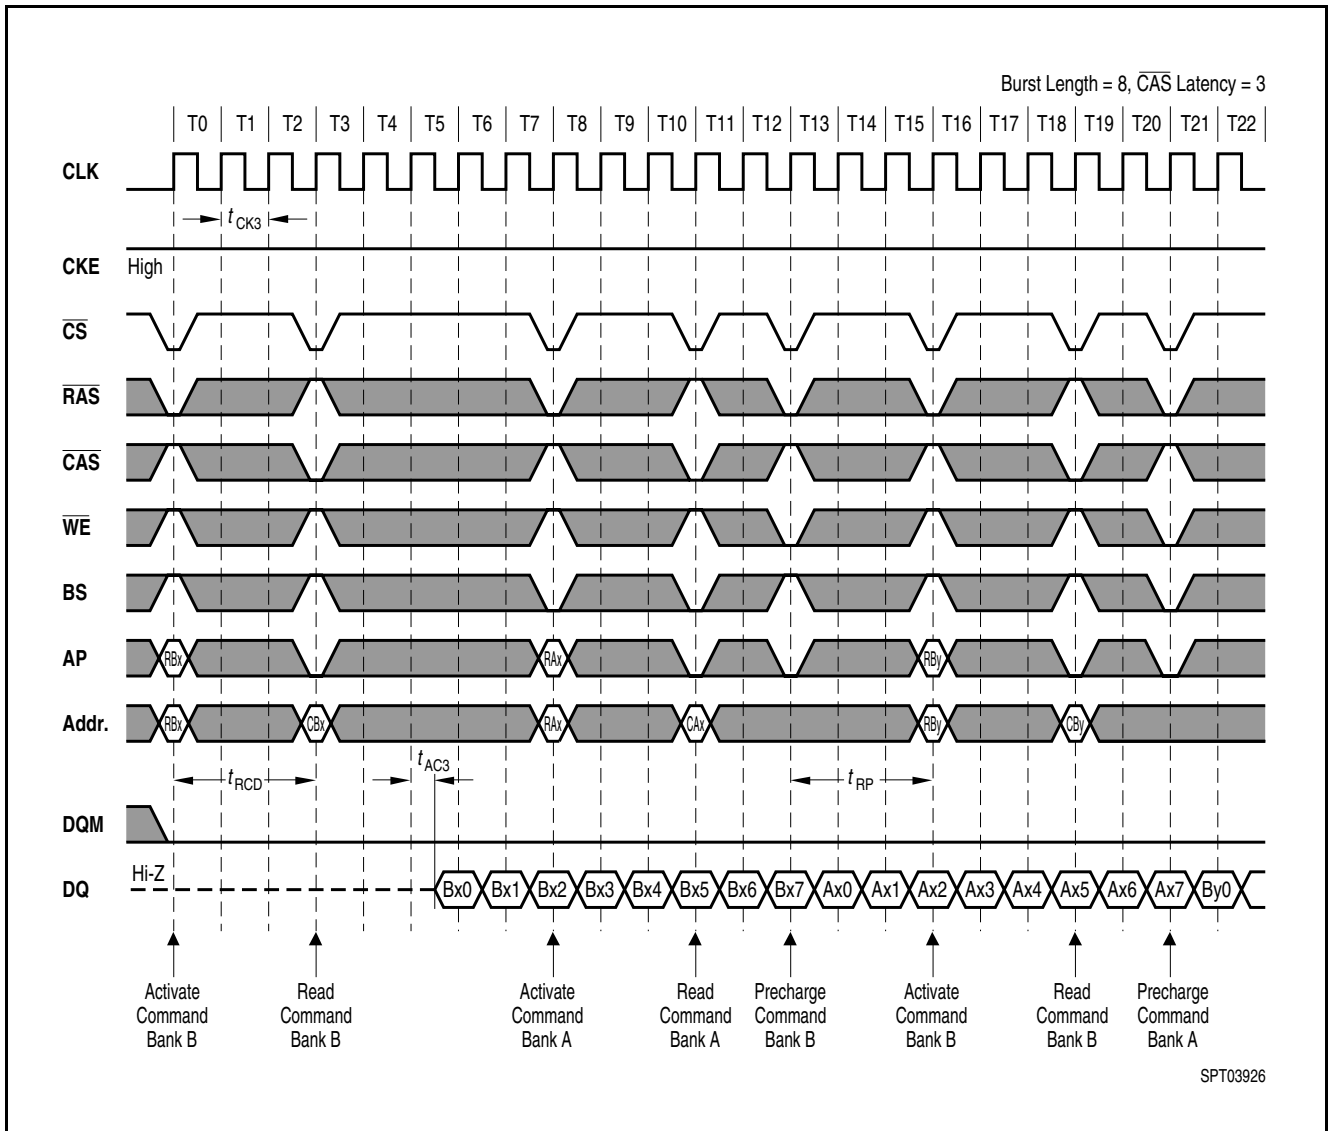

Figure 32 CAS Latency = 3
- **Figure 32** CAS Latency = 3